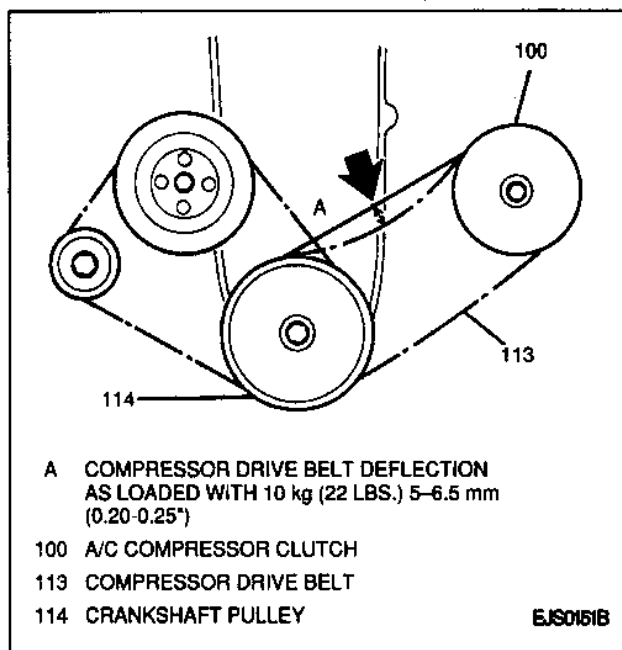

Figure 16—Compressor Drive Belt Tension
3. Compressor drive belt tension using thumb pressure and adjust to specification, if necessary (Figure 16).